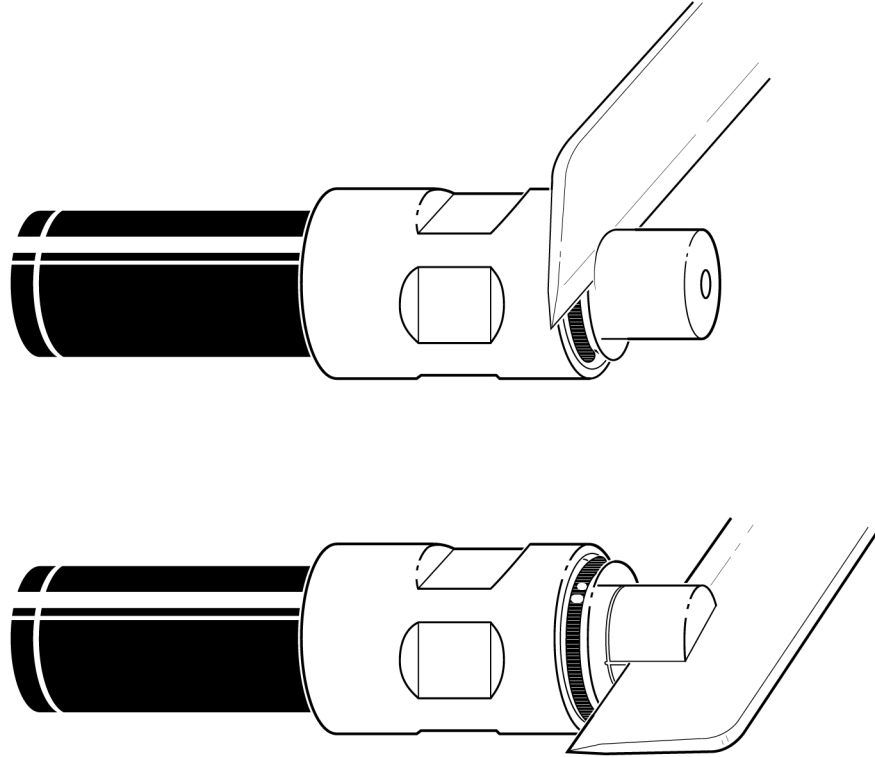

Figure 75 – Removing the foam dielectric
1. Use a knife to cut the foam dielectric flush with the outer conductor, to the depth of the inner conductor, then cut along the length of the inner conductor several times, until all the foam dielectric is removed; see *Figure 75*.